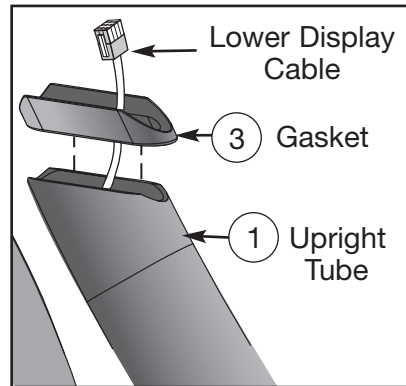

Figure 3
- B. Route the lower display cable through one of the two gaskets. See Figure 3.